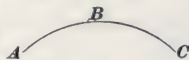

FIG. 2.
**19. A curved line** changes its direction at every point. Curved lines are designated by three or more letters, as the curved line *ABC*, Fig. 2.